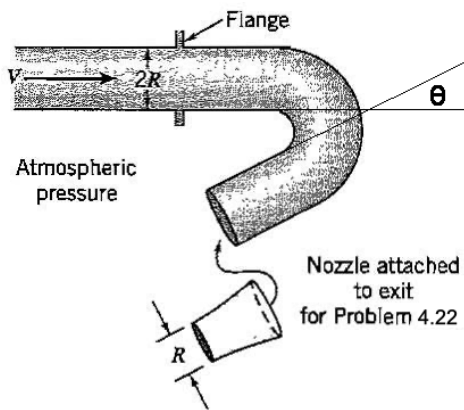

Figure P4.21
4.21 Air of constant density ρ flows steadily through the circular pipe of radius R with no losses at a velocity V , as shown in Figure P4.21. Find the vector force \mathbf{F} , exerted at the flange required to hold the pipe in place, in terms of ρ , R , V , and the angle of the bend θ . Ignore gravity. For this problem, the nozzle is not attached to the exit.